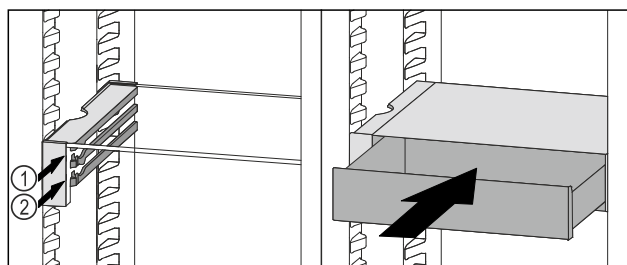

Fig. 111
- Place the VarioSafe drawer behind the stoppers on desired rib Fig. 111 (1) or Fig. 111 (2).